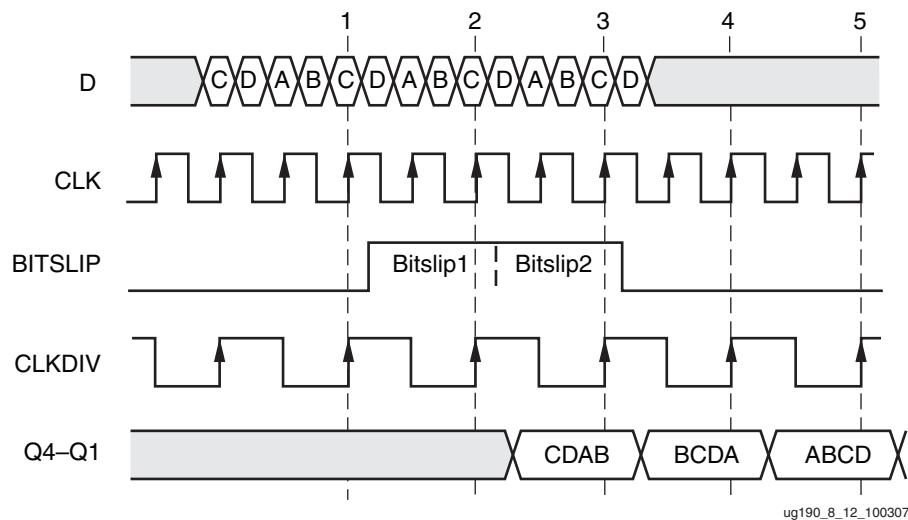

Figure 8-12: Bitslip Timing Diagram
When the ISERDES interface type is MEMORY, the latency through the OCLK stage is one CLKDIV cycle. However, the total latency through the ISERDES depends on the phase relationship between the CLK and the OCLK clock inputs. When the ISERDES interface type is NETWORKING, the latency is two CLKDIV cycles. See Figure 8-12, page 368 and Figure 8-13, page 369 for a visualization of latency in networking mode. The extra CLKDIV cycle of latency in networking mode (compared to memory mode) is due to the Bitflip submodule.
This section discusses the timing models associated with the Bitslip controller in a 1:4 DDR configuration. Data (D) is a repeating, 4-bit training pattern ABCD. ABCD could appear at the parallel outputs Q1–Q4 of the ISERDES in four possible ways: ABCD, BCDA, CDAB, and DABC. Only one of these four alignments of the parallel word makes sense to the user's downstream logic that reads the data from the Q1–Q4 outputs of the ISERDES. In this case, ABCD is assumed to be the word alignment that makes sense. Asserting Bitslip allows the user to see all possible configurations of ABCD and then choose the expected alignment (ABCD). Figure 8-12 shows the timing of two Bitslip operations and the corresponding re-alignments of the ISERDES parallel outputs Q1–Q4.